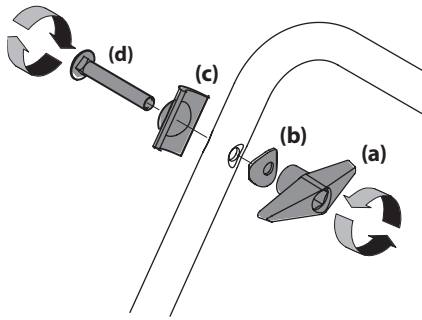

Figure 2-8
- Remove the wing knob (a), saddle washer (b), handle tab (c) and carriage screw (d) on each side of the lower handle. See Figure 2-8.